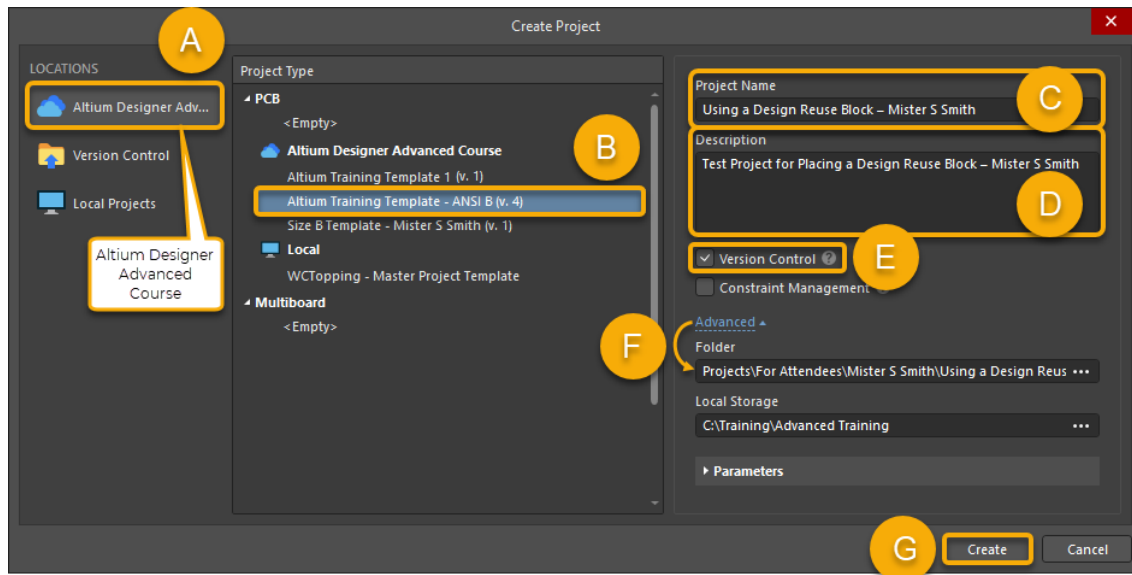

Figure 10. Create a New Project
34. Go to **File » New » Project...** to launch the *Create Project* dialog. The dialog shown in Figure 10 will appear.
35. Use Figure 10 above as a reference for the following steps. You may notice the **Constraint Management** option. We won't use this specifically for this project, but we will cover it in other modules of the Advanced training.